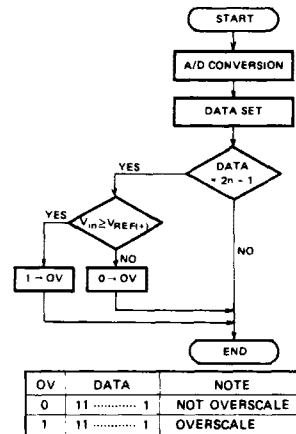
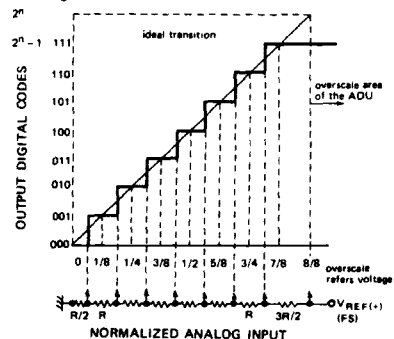

Figure 16 Overscale Check Flow
Figure 17 Definition ADU's Overscale
ADU is equipped with hardware overscale detection function. The overscale detection is performed automatically when the result of A/D conversion is 2^n-1 (all bits = 1). When analog input V_{AIN} is higher than $V_{REF(+)}$, overscale bit (OV) is set to "1". The definition of the overscale is illustrated in Fig. 17. And the flow of overscale check is shown in Fig. 16.